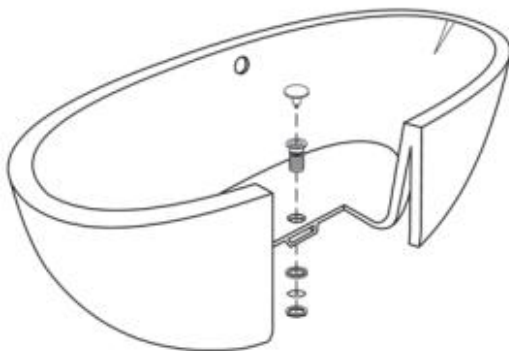

figure 10
9. Attach the Drain Body Nut on the Drain Body and tighten until the Nut and Washer have created a seal with the bottom of the bathtub .DO NOT OVERTIGHTEN (figure 10).